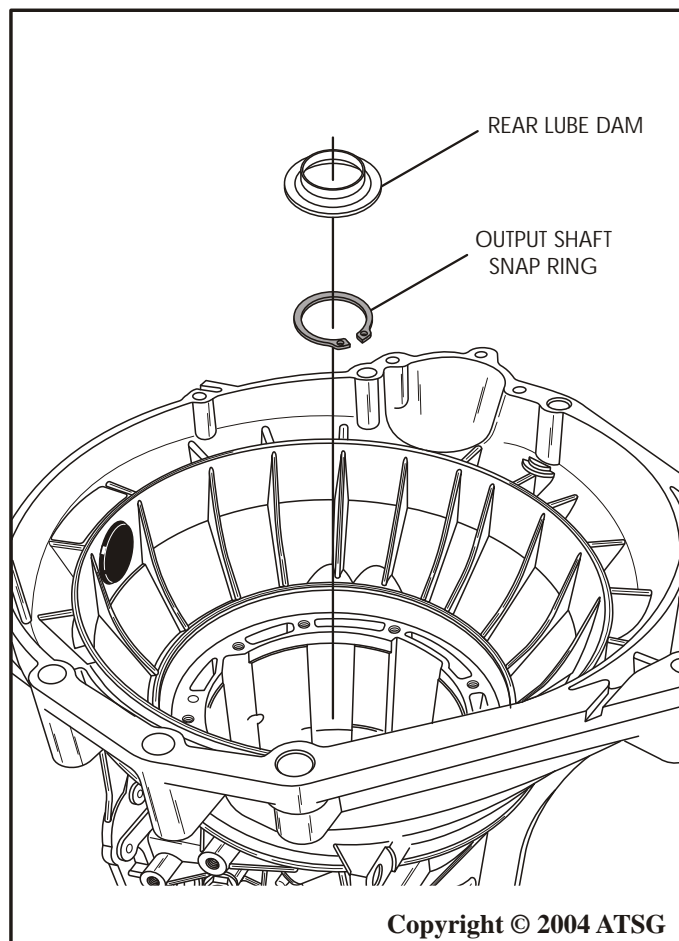

Figure 142
14. Install a **new** output shaft snap ring onto output shaft, as shown in Figure 142, and ensure that it is fully seated.
15. Install the plastic rear lube dam into the ring gear in the direction shown in Figure 142.